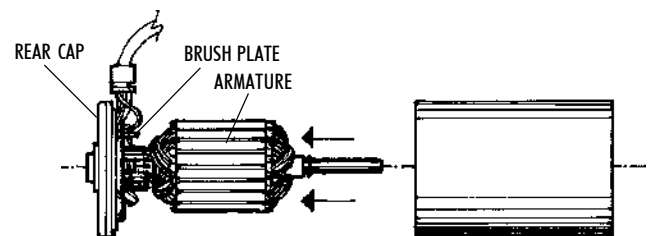

FIGURE 2—The end cap and armature are removed from the motor case.
4. Push the armature and rear cap from the motor body. (See figure 2.)